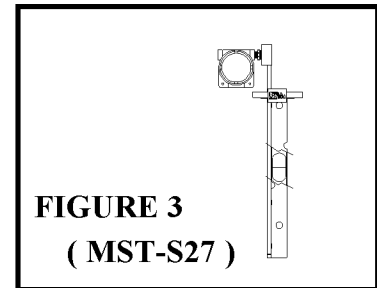

FIGURE 3
3. **MST-S27:** Design #3 incorporates part of both designs #1 and #2 above. The float is in a guide tube lateral to the sensing tube as in design #1, but is inserted into the vessel as in design # 2. See figure 3 below.